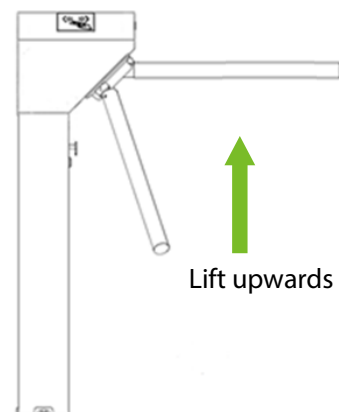

Figure 2-5
3. Lift the arms manually, as shown in Figure 2-5.